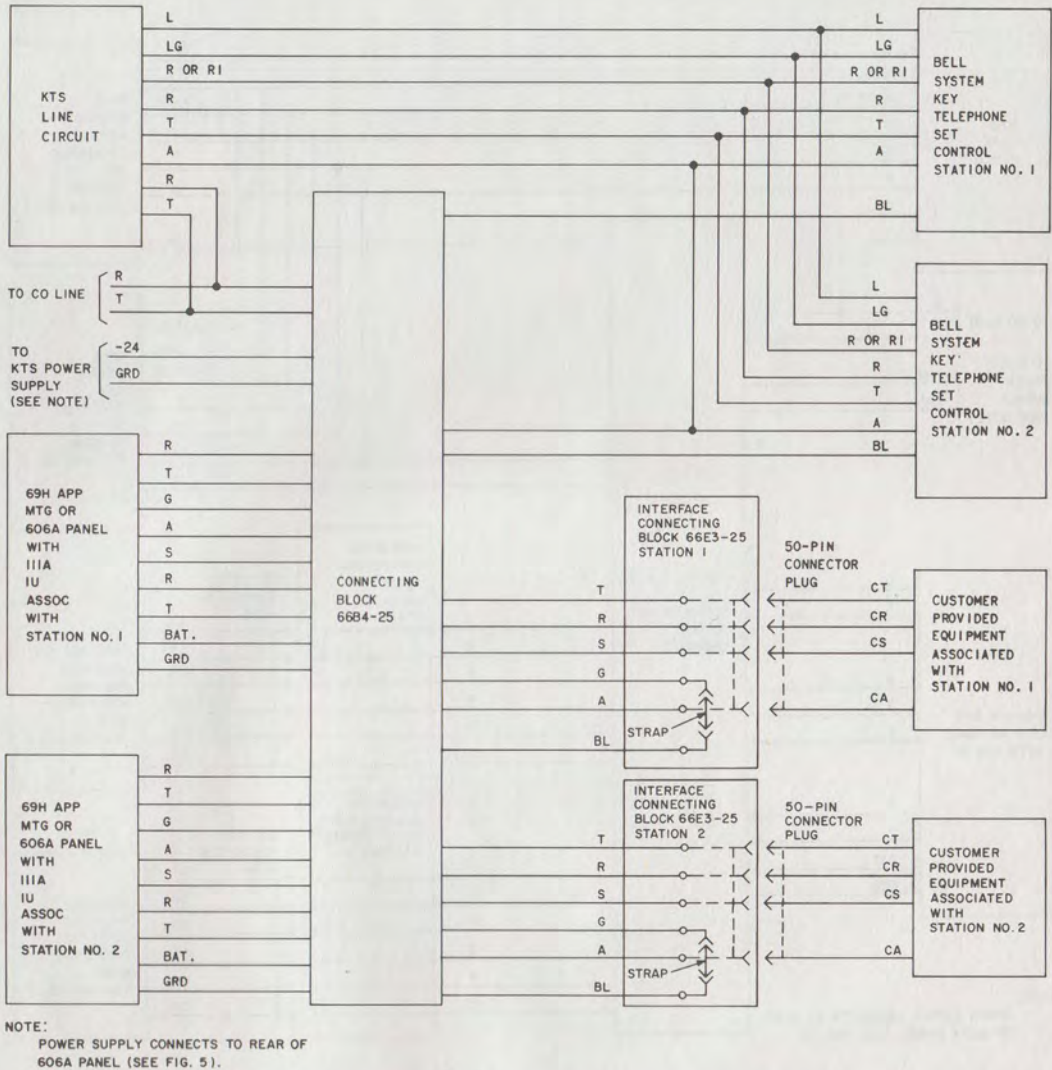

Fig. 6—Block Diagram—Voice Connecting Arrangement CEBAX
Voice Connecting Arrangements CEBAX and CEBBX (Fig. 6 and 7).
to the CP equipment for Voice Connecting Arrangement CEBAX (Fig. 6).
**3.13** The stub ends of the A25B connector cables will be terminated on the 66B4-25 intermediate connecting block (Fig. 6 or 7 and Table D or E). Unused leads should be insulated and stored.
**6.03** For connecting information using the 606A panel, refer to Fig. 6 or 7 and Table D or E.